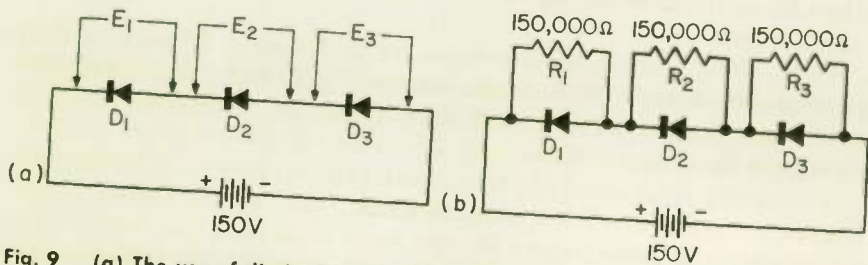

Fig. 9 (a) The use of diodes in series to increase back voltage rating. (b) The use of equalizing resistors to equally distribute the voltage.
14 DIODES IN SERIES . . . If proper precautions are taken, diodes can be connected in series for use with a higher back voltage than the individual units can handle. Since the sum of the voltage drops around a circuit must equal the impressed voltage, the sum of voltages E_1 , E_2 , and E_3 in Fig. 9(a) is equal to ⁽⁶¹⁾_____ volts. If the three diode voltages are equal, the voltage across each diode will be ⁽⁶²⁾_____ volts. Equal division of the applied voltage across the diodes will occur when the back resistance of the diodes are ⁽⁶³⁾_____.
As in the case of the forward resistance, the back resistance will vary considerably between diodes, even between those of the same type. When the back resistances of the diodes of Fig. 9 are unequal, the voltage will be greatest across the diode with the ⁽⁶⁴⁾_____ resistance.
(60) 10; (61) 150; (62) 50; (63) equal; (64) greatest;
Diodes operated in series to provide a higher back voltage should all be of the same type number to minimize variations in back resistance. The voltage across each diode should be checked with a vacuum tube voltmeter (or a 20,000 ohms-per-volt meter) to see that the individual back voltages are reasonably equal. The back voltage rating of the diodes should be at least 25% greater than would be necessary if even voltage distribution could be assured. The maximum d-c inverse operating voltage rating of the diodes in Fig. 9(a) should be at least (65) _____ volts.
The best way to assure satisfactory operation of diodes in series is by the use of equalizing resistors as in Fig. 9(b). Values between 100,000 and 200,000 ohms are usually suitable. The lower the value of the equalizing resistors, the better the voltage equalization. The equalizing resistors considerably reduce the back resistance of the circuit, but a lowered back resistance is not always objectionable.
2. In Fig. 9(a) assume the back resistance of D_1 as 1 megohm, the back resistance of D_2 as 2 megohms, and that of D_3 as 3 megohms. Then $E_1 =$ _____ volts, $E_2 =$ _____ volts, and $E_3 =$ _____ volts.
3. With back resistances the same as in Problem 2, assume that 150,000 ohm equalizing resistors are used as in Fig. 9(b). Now compute the voltages across the diodes, $E_1 =$ _____ volts, $E_2 =$ _____ volts, and $E_3 =$ _____ volts.